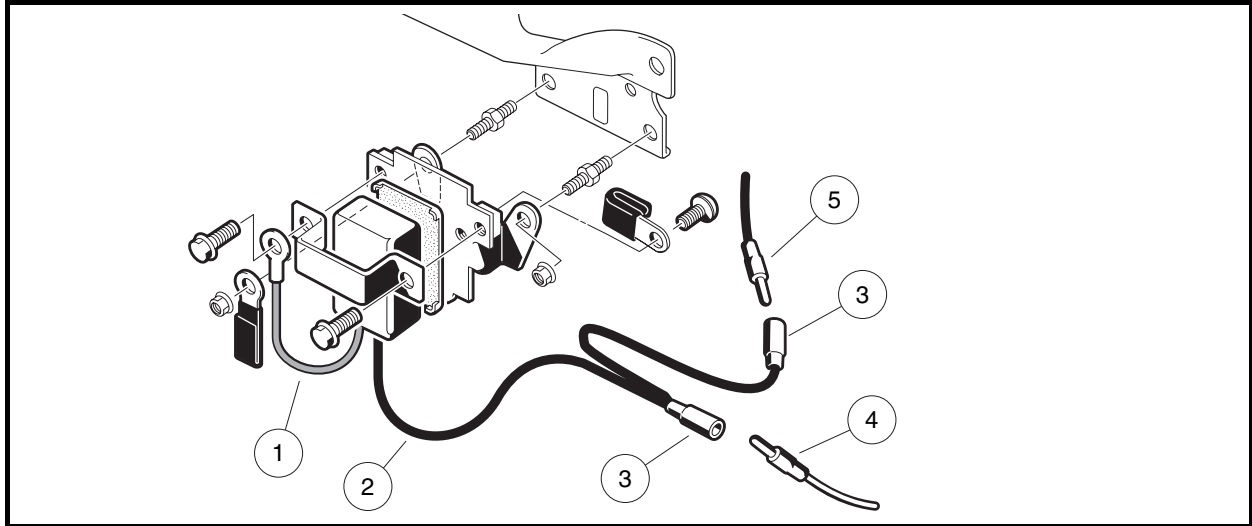
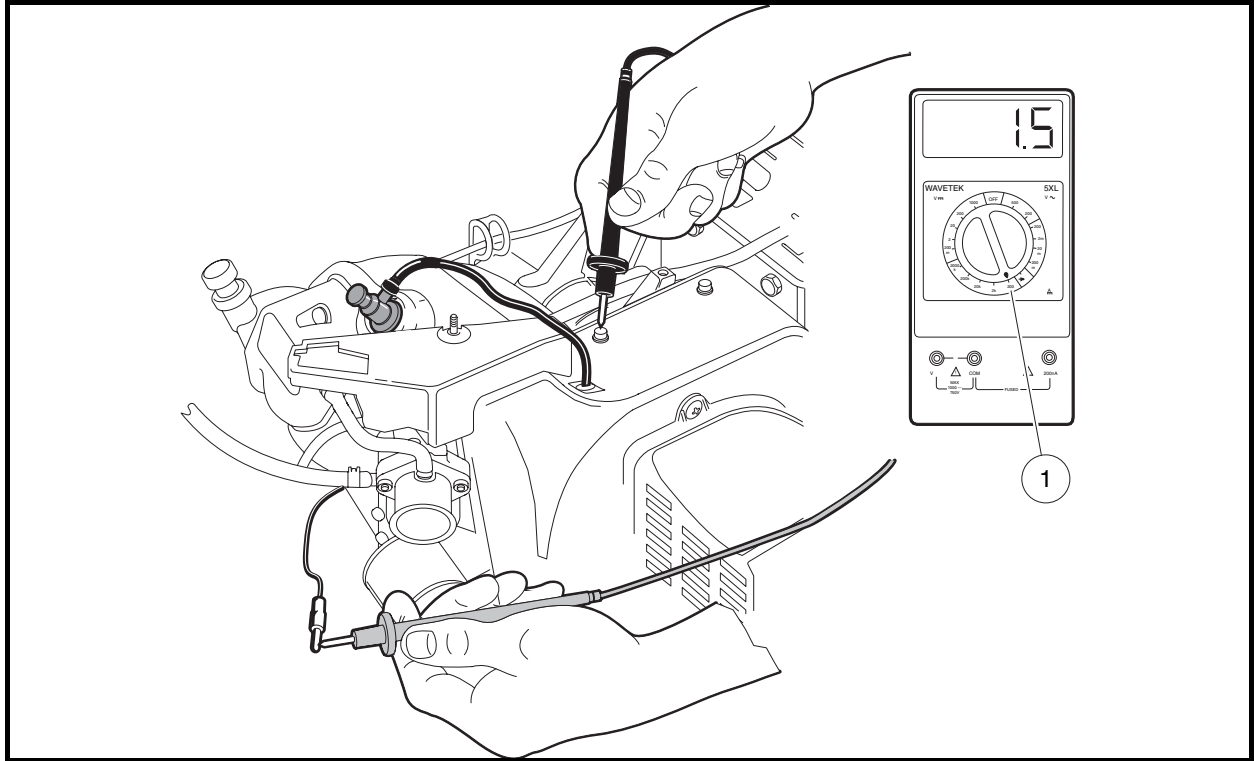

Figure 12-18 RPM Limiter
Figure 12-19 Primary Coil Resistance – In Vehicle Test
- Disconnect both of the bullet terminals (**Figure 12-18, Page 12-21**).
- 2.1. Disconnect both of the bullet terminals at the RPM limiter (**Figure 12-18, Page 12-21**). Place the red (+) probe of the meter on the male bullet terminal of the wire connecting to the ignition coil under the fan housing, and place the black (–) probe on a clean unpainted surface of the engine or frame (**Figure 12-19, Page 12-22**).